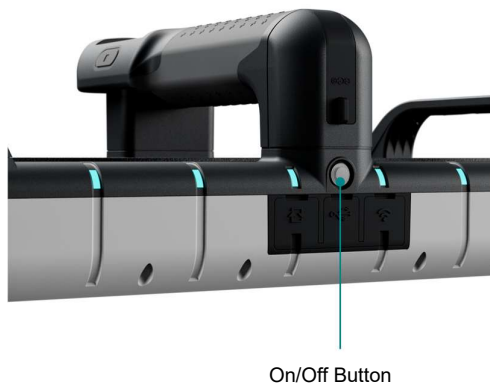

Figure 6: GP8000 & GP8100 Switch on/off button
- Turn on: long press 1 second the switch on/off button on the back (see Figure 6)
- Turn off: long press 1 second the switch on/off button on the back (see Figure 6)